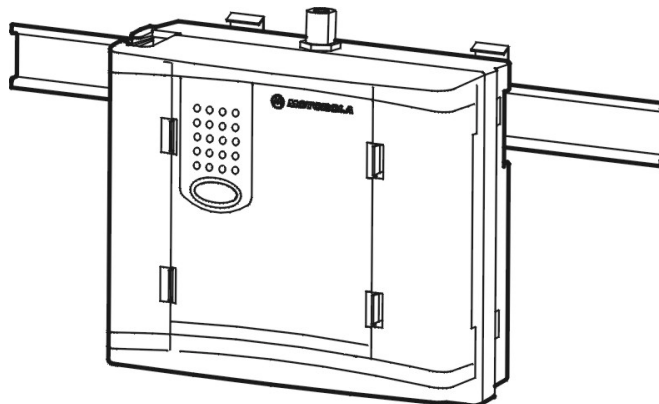

Figure 6
2. Press the unit onto the DIN rail, using both universal foot elements. The elements can be used on DIN rail 35 mm and G rails. (See Figure 6).